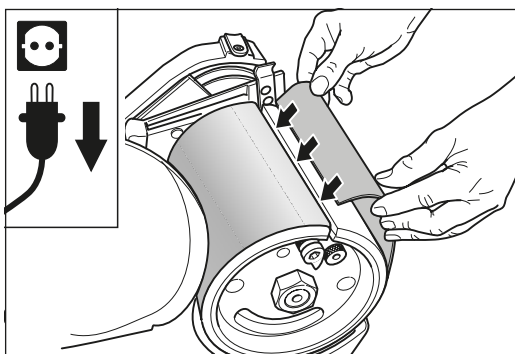

Fig. 33 Insert the new abrasive sheet carefully.
- 9 Place the new abrasive sheet evenly around the sanding drum and insert the ends into the paper clamping slot of the sanding drum (fig. 33).